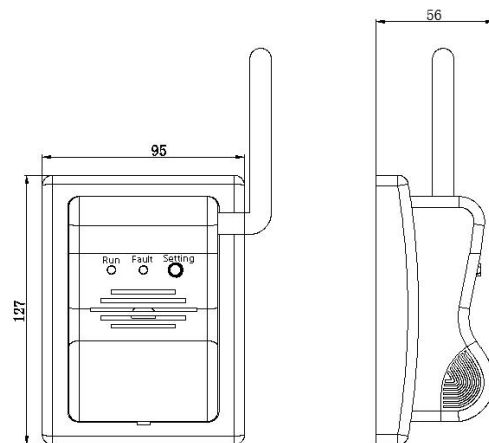

Figure 1 Schematic diagram of the appearance of the alarm
4.1、The outline diagram of the module is shown in Figure 1: